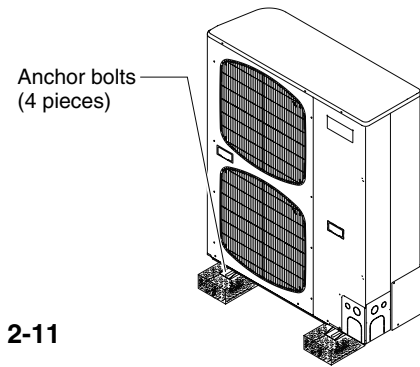

Fig. 2-11
- provide a solid base (concrete block, 10 × 40 cm beams or equal), a minimum of 15 cm above ground level to reduce humidity and protect the unit against possible water damage and decreased service life. (Fig. 2-11)